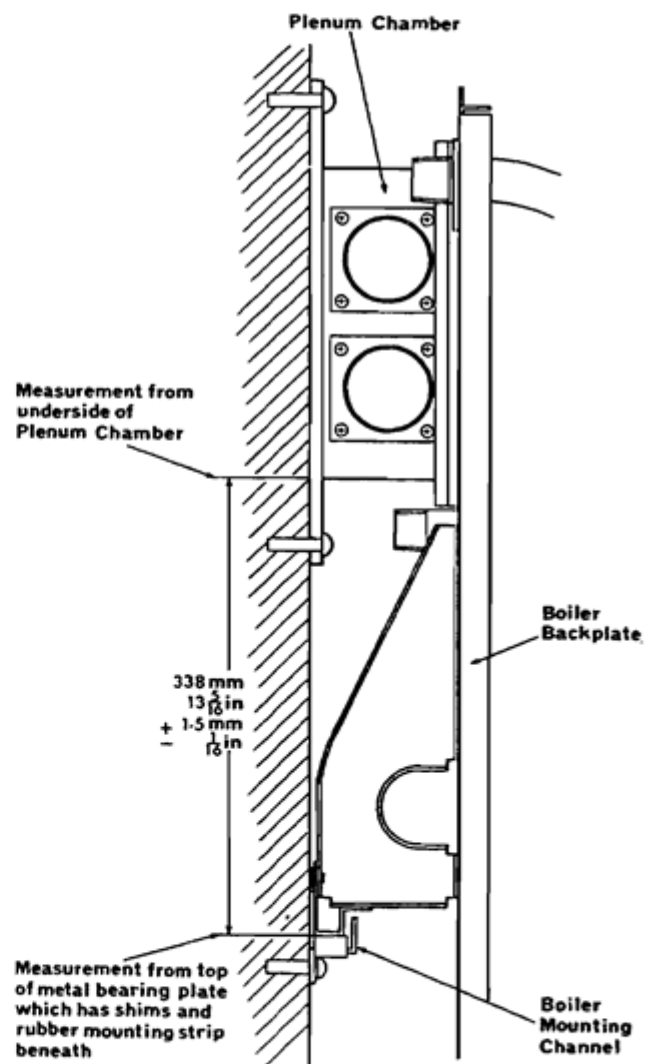

Fig. 6 RELATIVE POSITION OF PLENUM CHAMBER AND MOUNTING CHANNEL
(10) Measure the distance from the bottom of the box section of the plenum chamber to the top of the metal bearing plate in the boiler mounting channel, see Fig. 6. Compare this dimension with the nominal dimension of 338mm. (13.5/16 in.) and by adding additional shims or removing those already in position, adjust the measured distance to equal the nominal measurement, $\pm 1.5\text{mm}$ (1/16 in.) If a more coarse adjustment is necessary, the plenum chamber and mounting channel can be moved slightly up or down on the wall using the elongated holes in their mounting flanges. It is essential that this dimension is accurately obtained, otherwise once the boiler is lifted onto its mounting channel, the screw holes in the boiler back plate will not align with those in the plenum chamber.
(11) Make good the inside and outside wall surfaces around the liner as necessary.
- (12) Fit the balanced flue terminal over the end of the flue duct, ensuring that the duct is located inside the outlet aperture on the terminal. Secure the terminal to the wall with the two size 8, 1 in. long screws supplied (Accessories Card Item E).
- (10) Secure the duct sealing flange and sealing rings, if applicable, to the telescopic trunking using the four screws (Accessories Card Item D).
- (11) Measure the distance from the bottom of the box section of the plenum chamber to the top of the metal bearing plate in the boiler mounting channel, see Fig. 6. Compare this dimension with the nominal dimension of 338mm (13.5/16-in.) and by adding additional shims or removing those already in position, adjust the measured distance to equal the nominal measurement, ± 1.5mm (1/16 in.) If a more coarse adjustment is necessary, the plenum chamber and mounting channel can be moved slightly up or down on the wall using the